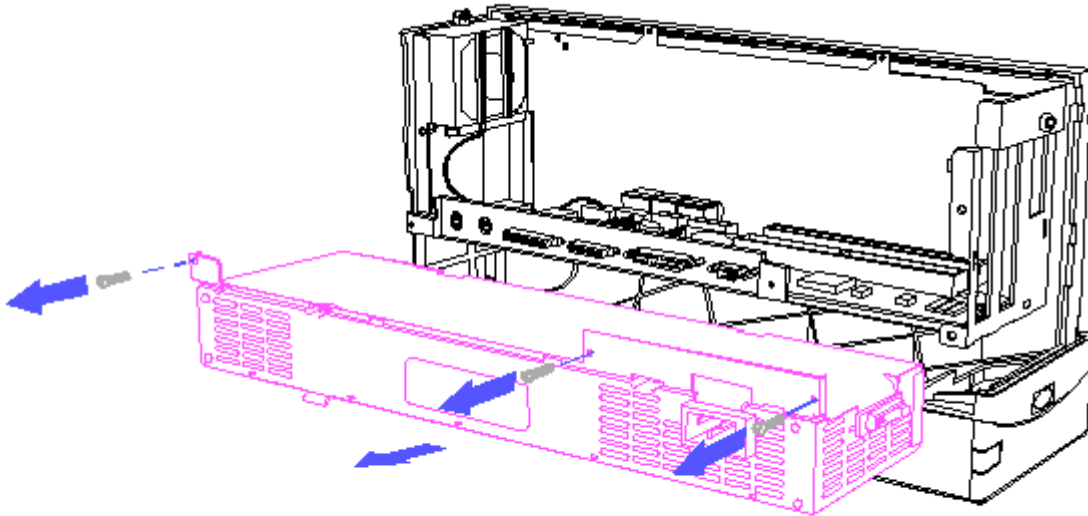

Figure 5-13. Removing the Power Supply
3. Using a Torx T-15 screwdriver, remove three screws securing the power supply to the I/O board (Figure 5-13).
4. Pull out the power supply with the switch bezel attached (Figure 5-13).
5. Remove the switch bezel from the power supply (Figure 5-13).